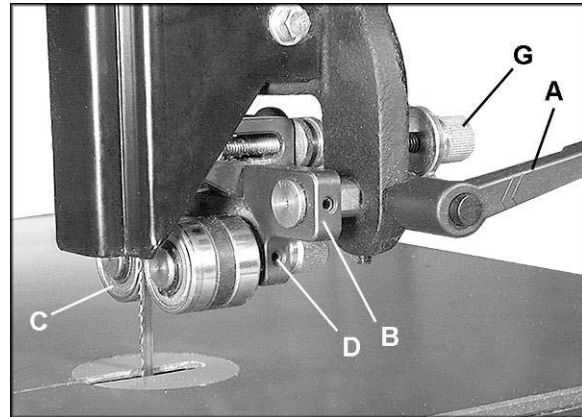
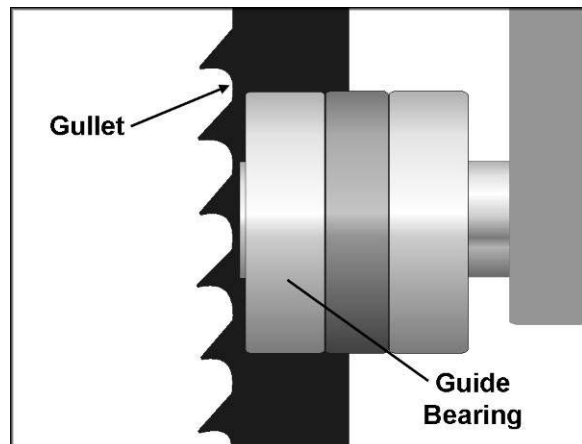
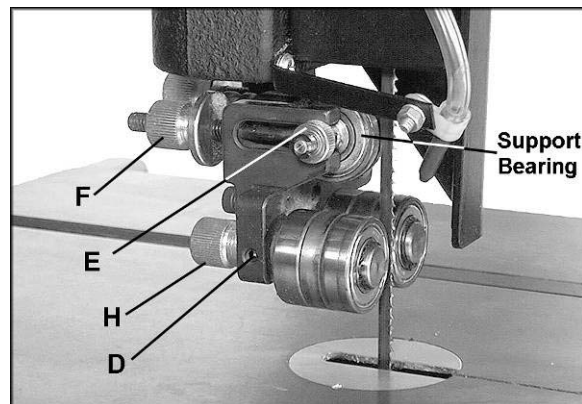

Figure 17
Figure 18
Figure 19
3. Loosen the locking handle (A, Figure 17).
4. Adjust the guide bracket (B, Figure 17) by rotating knob (G, Figure 17) until the front of the guide bearings (C, Figure 17) are just behind the blade's gullet (curved area at the base of the tooth). See Figure 18.
5. Tighten the locking handle (A, Figure 17).
6. Loosen set screw (D, Figure 17) on the guide bearing assembly, with a 3mm hex wrench. (Figure 17 shows the set screw for the right hand bearing; the set screw for the left hand bearing is shown in Figure 19.)
7. The guide bearing rotates on an eccentric shaft. Adjust the guide bearing, by rotating the knob (H, Figure 19) until the guide bearing rests lightly against the blade. Do not force the guide bearing against the side of the blade.
8. Tighten set screw (D, Figure 17).
9. Repeat the process for the other guide bearing. After adjustment, make sure the set screw (D, Figure 19) is tightened.
10. Loosen nut (E, Figure 19).
11. Adjust the support bearing using the knob (F, Figure 19) until the space between the support bearing and the back edge of the blade is approximately 1/64". A convenient way to achieve this spacing is by placing a dollar bill folded twice (four thicknesses of a dollar bill is approximately 1/64") between blade and support bearing.
13. When support bearing adjustment is complete, remove dollar bill and tighten nut (E, Figure 19).